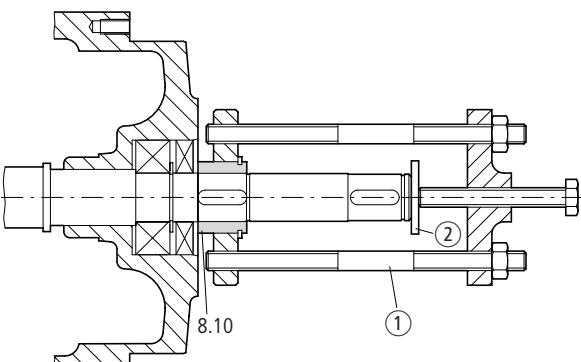

Figure 6: Removing the friction plate driver (8.10)
- Remove the friction plate driver (8.10) with the extractor ① (→ Fig. 6).